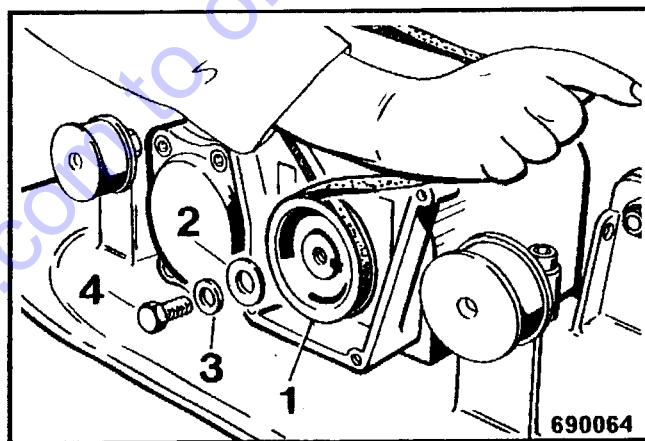

Fig. 6
- Hold the V-belt pulley 1 (Fig. 6) with the V-belt and unscrew the screw (4) with the washer (2) and the tensioning washer (3).